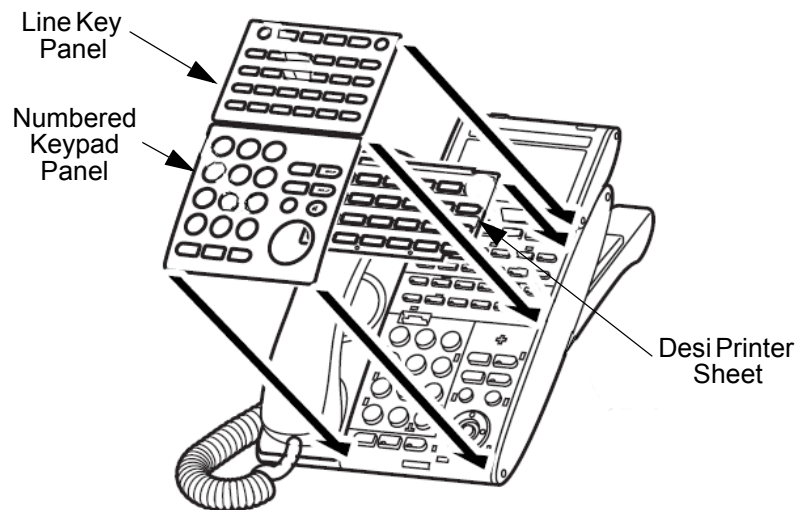

Figure 5-56 Install Plastic Panels
- Insert the DESI printer sheet and plastic panels on the multiline terminal. Refer to Figure 5-56 Install Plastic Panels.